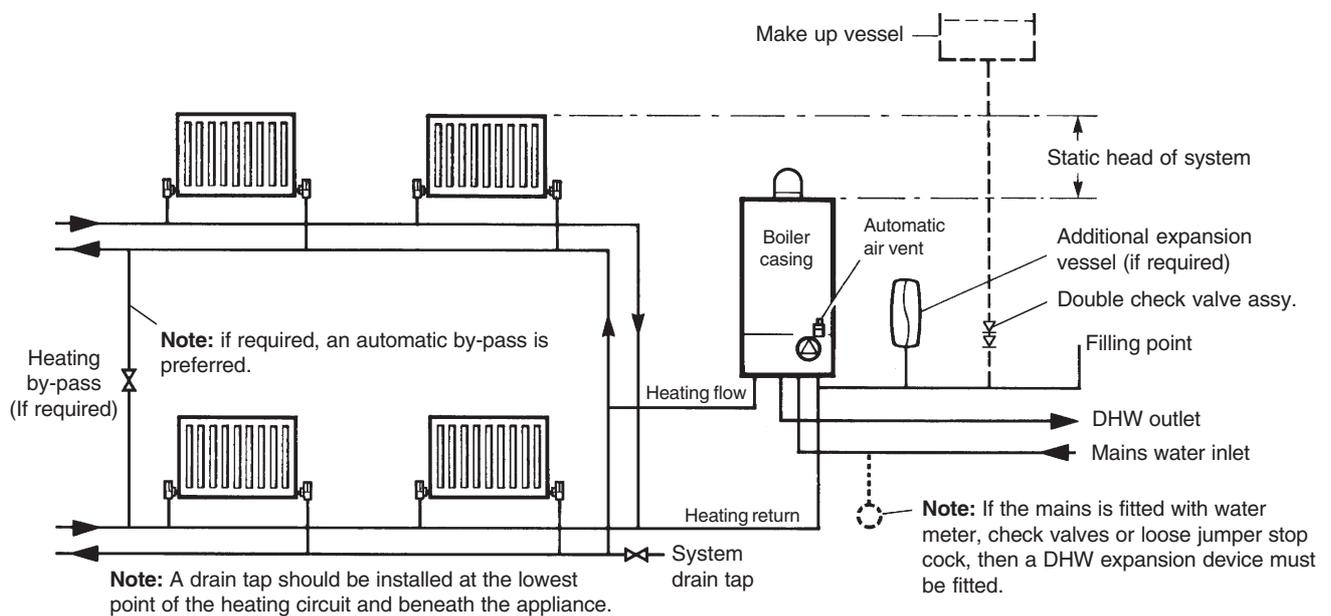
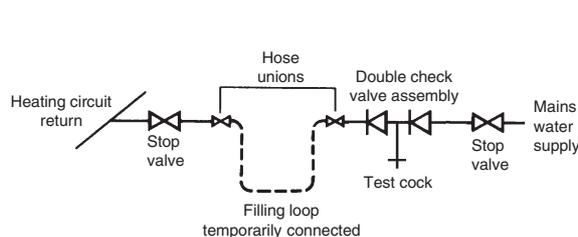
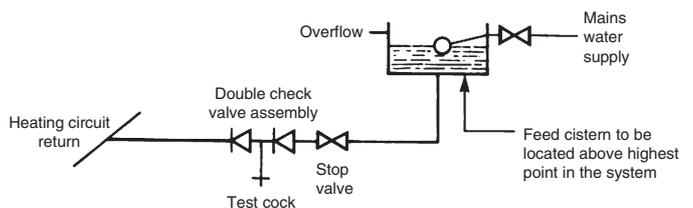

Fig. 5
Fig. 6
Fig. 7
3.7 CENTRAL HEATING SYSTEM - Fig. 5
Above 80 litres, consideration should be given to fitting an additional expansion vessel fitted in the position shown in Fig. 5. To check correct operation of the expansion vessel(s) the system pressure should not be more than 2.5 bar when the system is at maximum operating temperature (for further guidance refer to BS 7074:1).
3.8 FILLING THE CENTRAL HEATING SYSTEM - Figs. 6, 7
The system design pressure (cold) should be set to 1.0 bar. This pressure is equivalent to a static head (see Fig. 5) of 10.2 metres of water. Provision should be made to replace water lost from the system. This can be by manual or automatic means, as shown in Figs. 6 and 7. The position for connecting an automatic make-up vessel is indicated in Fig. 5. A double check valve assembly must be used, as shown in Fig. 7.
Filling of the system must be carried out in a manner approved by the local Water Undertaking. Where allowed, the system may be filled via a temporary connection as shown in Fig. 6. After filling, always disconnect the flexible hose of the filling loop.